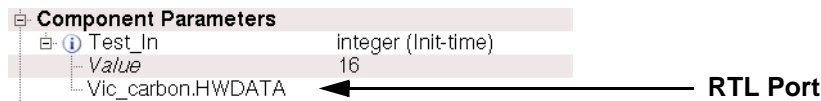

Figure 5-31 SoC Designer Plus Component Parameter Mapped to RTL Port
2. Select the signal from the list and click **OK**, and the RTL port is moved from the *Component Ports* section to the *Component Parameters* section (Figure 5-31).